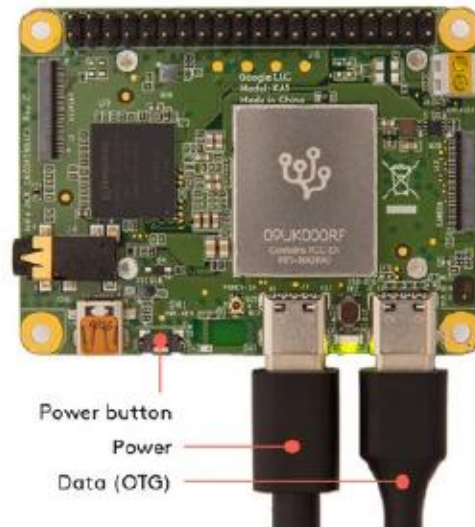

Fig 1. The USB power and data cables connected
1. Connect your power supply to the board's USB power plug (the left plug, as shown in figure 1) and connect it to an outlet.